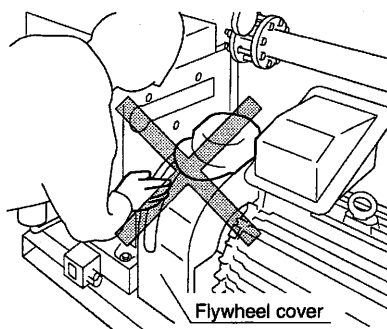

Fig. 1
- * **Do not put the hand or a part of the body in the flywheel cover while the motor is rotating. Do not put any substance on the flywheel cover. (Fig. 1)**